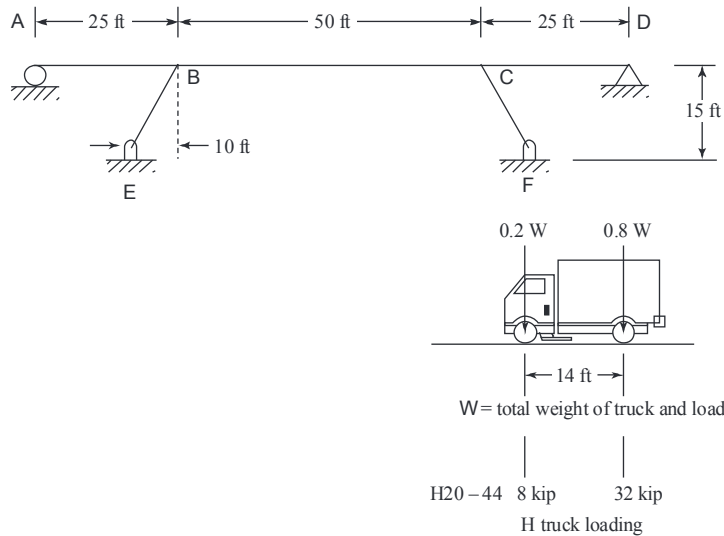

Figure P5-71
**5.71** Design the rigid highway bridge frame structure shown in Figure P5-71 for a moving truck load (shown below) simulating a truck moving across the bridge. Use the load shown and place it along the top girder at various locations. Use the allowable stresses in